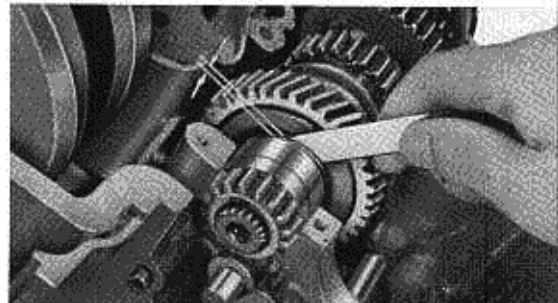

Fig. 6-8A Measuring Gear Side Play
2. Gear side clearance should be measured with a feeler gauge at the locations shown in Figs. 6-8A & B, side clearances which are not within specifications should be noted for reassembly. Varying thickness thrust washers are available to obtain proper side clearance of fourth gear on the mainshaft and first gear on the countershaft.